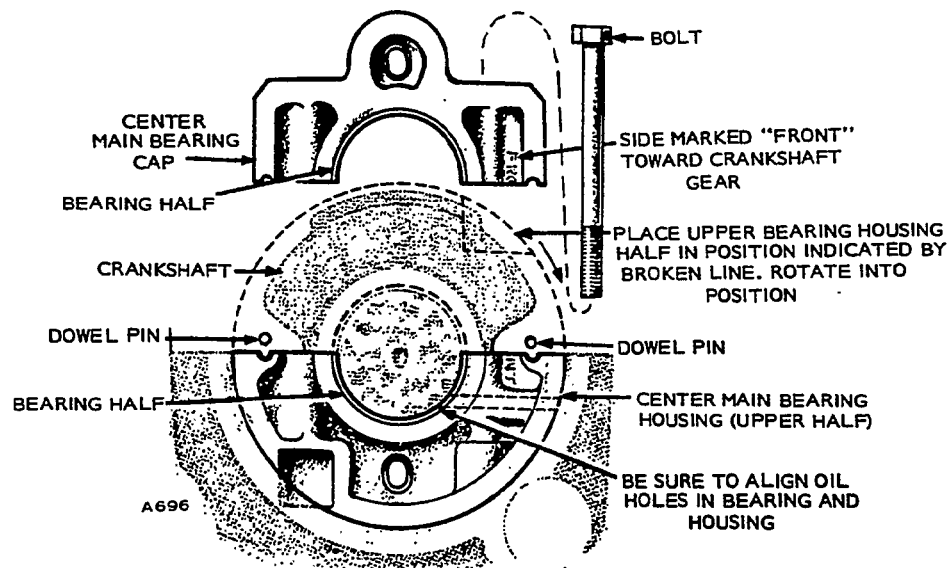

FIGURE 118. CENTER MAIN BEARING HOUSING
6. Set upper half of center main housing on crankshaft and rotate it into place. See Figure 118. Be sure it is installed with the side marked *front* toward crankshaft gear. Set the two positioning dowels on the upper bearing mount. Install center main bearing cap and torque bolts to 97-102 ft.-lb. (131-138 Nm).